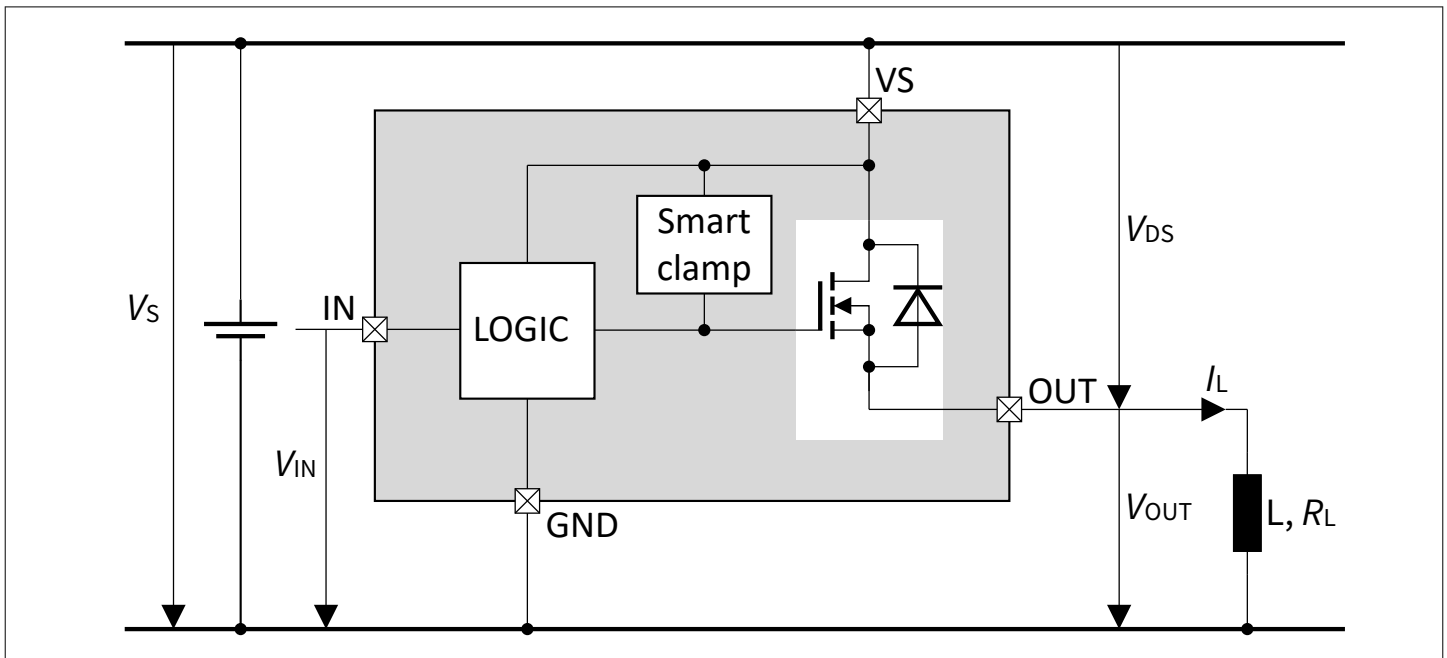
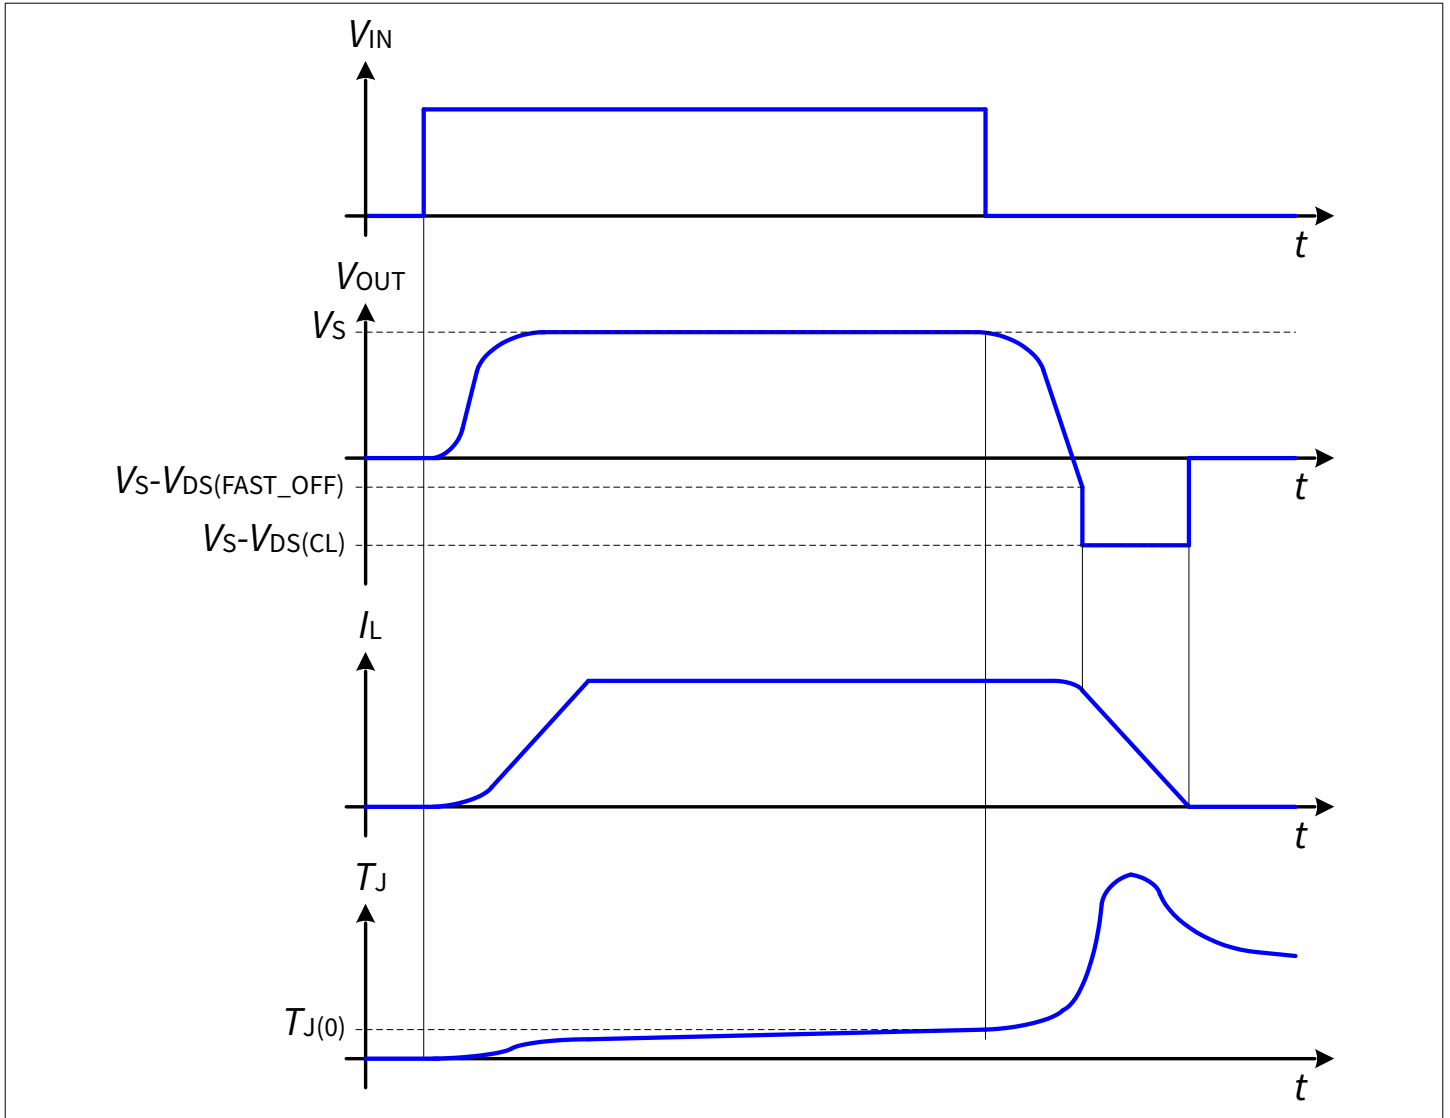

Figure 11 Output clamp
Figure 12 Switching an inductance
To prevent the destruction of the device due to high voltages, there is a smart clamping mechanism implemented that keeps negative output voltage to a certain level ($V_S - V_{DS(CL)}$). Please refer to Figure 11 and Figure 12 for details. Nevertheless, the maximum allowed load inductance remains limited.
The device features a fast switch off when driving an inductive load in order to increase the energy capability. The fast turn off is triggered when V_{DS} is higher than $V_{DS(FAST_OFF)}$. Please refer to Figure 12 for details.
- The device is turned off by applying $V_{IN} < V_{I(L)MIN}$. During the switch off operation, V_{OUT} drops below $V_S - V_{DS(FAST_OFF)}$. See Figure 12.